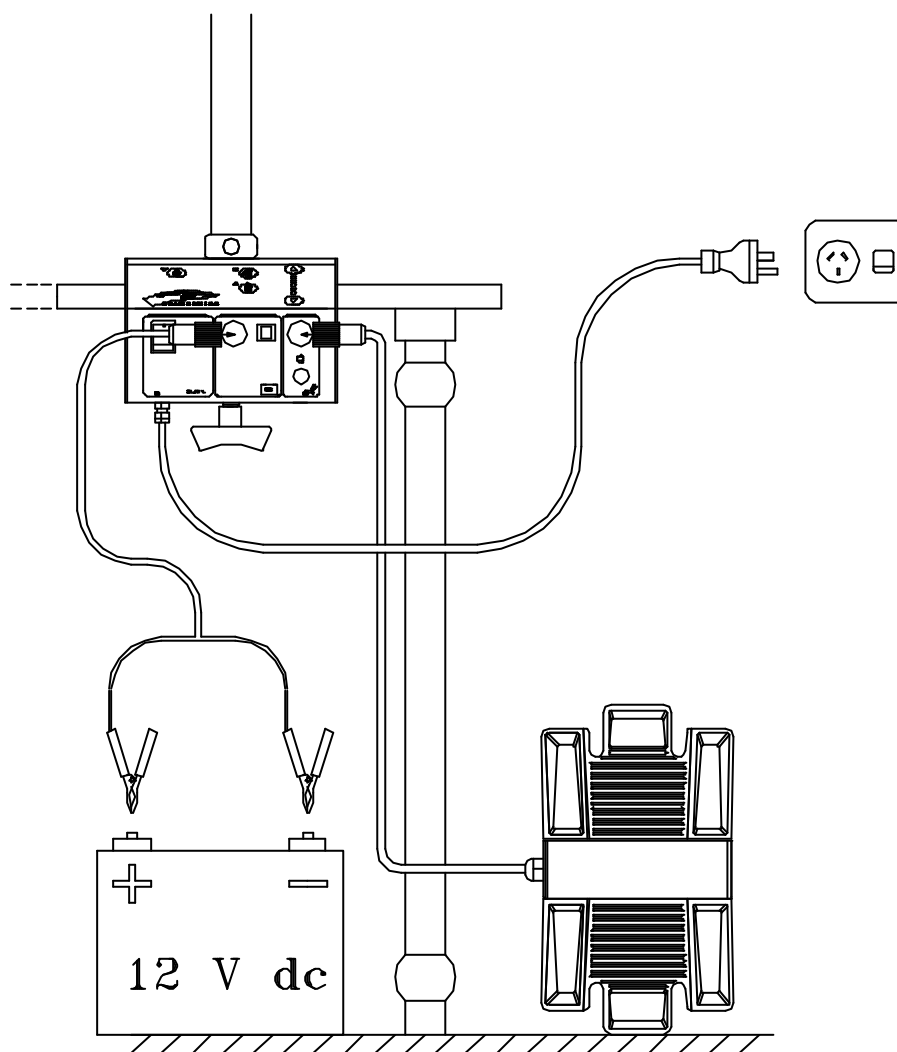

Figure 9 Connecting power cables
2. The Scan Optics SO-7500 Microscope may be connected to either an earthed mains 110/120V or 220/240V ac supply, or a 12V dc supply, or both. **Select the appropriate voltage using the selector located on the front panel of the power supply.** If both ac and dc supplies are connected, the dc supply (for example, a 12V battery) will act as an emergency backup for mains power. In this case, the microscope will not run from battery power unless the mains supply fails or is switched off. If mains power is restored, the microscope will resume using mains power automatically. The mains power switch on the microscope does not switch the battery off. Refer to figure 9.
6. Connect the cable to the 12-volt connector on middle of the front panel on the power supply. Refer to figure 9.
8. Where the SO-7500 microscope is used as a companion to the SO-5000, SO-5100 or SO-5600 microscopes, the standard SO-5000 foot switch may be used to change the light intensity of the lamp. The other foot switch functions will not work on the SO-7500 microscope. The foot switch may be attached as shown in figure 9 above.